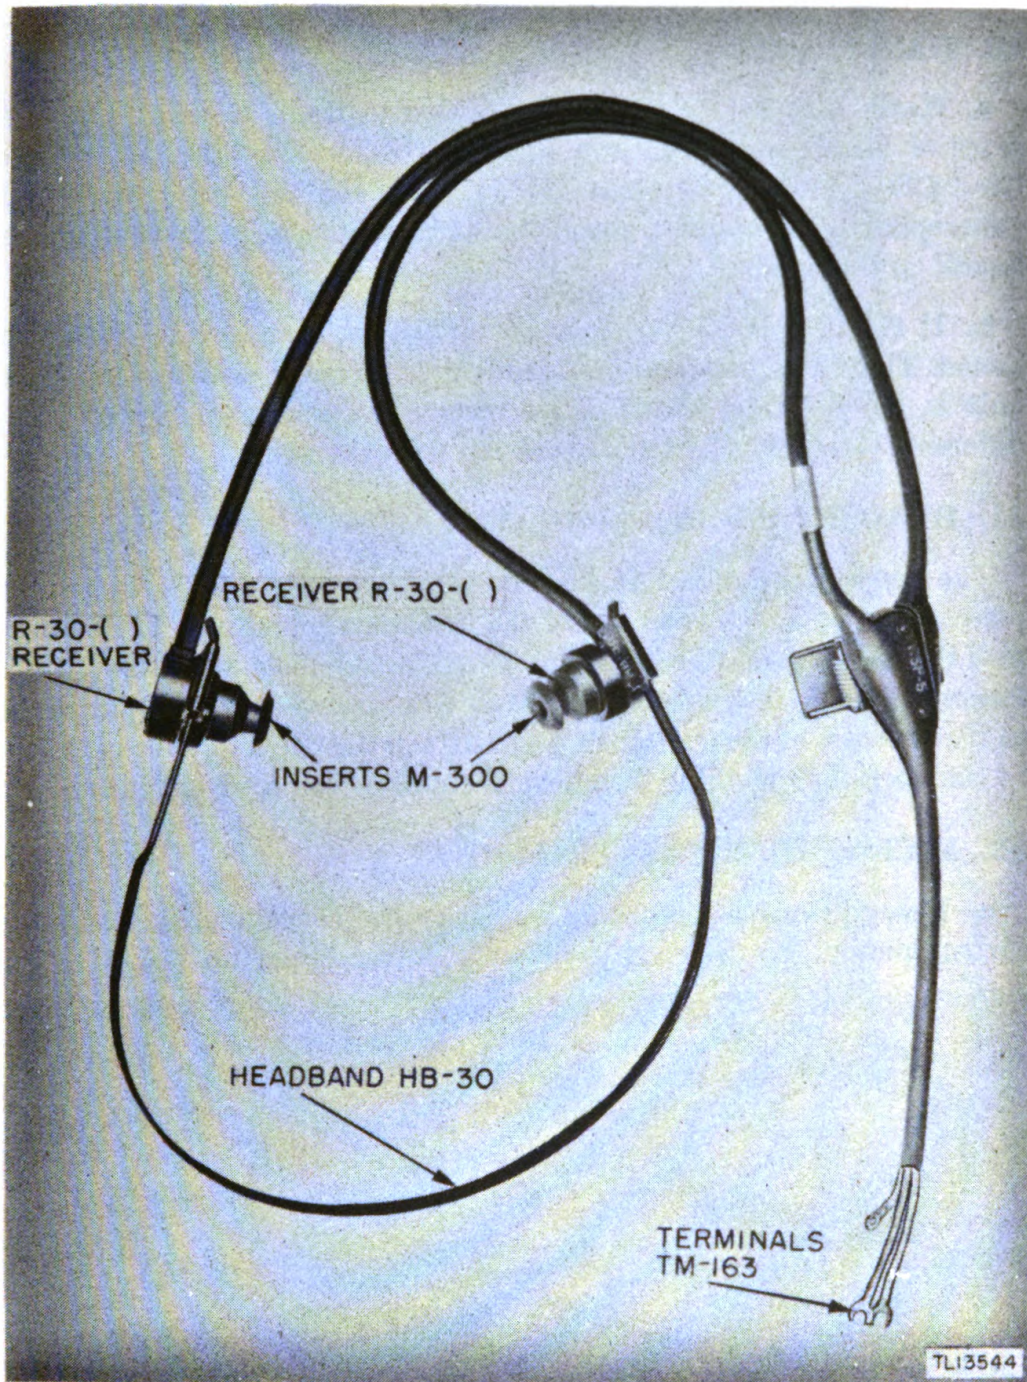

Figure 13. Headset HS-30().
11. HEADSET HS-30() (fig. 13).
The headset is lightweight and close-fitting. Special soft rubber earpieces snapped to the receivers of the headset are designed to fit snugly into the ear cavities. These earpieces exclude outside noises and aid in receiving weak signals. The headband is a thin, steel band, adjustable to the contours of the operator's head. Attach the clip on the headset cord to the operator's clothing to relieve the pull of the cord (fig. 13).